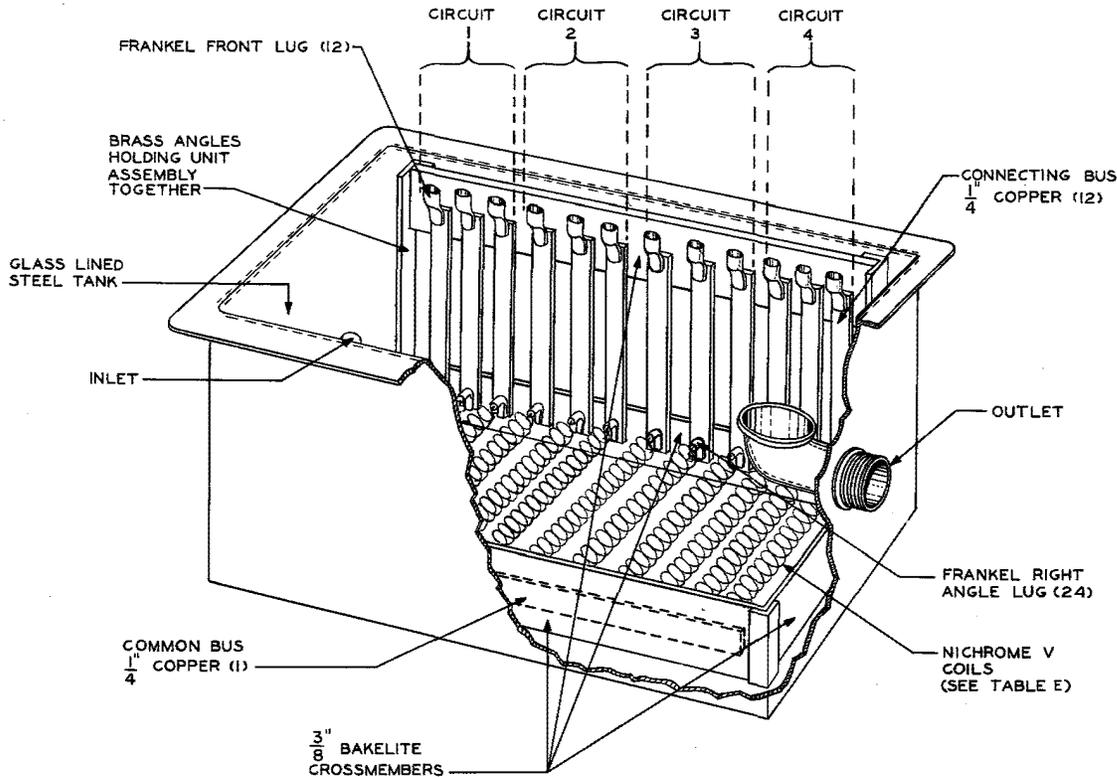

Fig. 20 – Typical Permanent Water Rheostat (tank type) With Section Removed to Show Nichrome V Wire Coils
7.02 The permanent water rheostat consists of a glass-lined tank, water inlet, water outlet, Nichrome V wire coils, see Fig. 20, and asso-
7.05 The other end of the coils, which run along at the bottom of the assembly, is attached to right-angle lugs which in turn are connected to a common bus extending the length of the assembly. It can be seen that this assembly presents four circuits, each containing three coils connected in Y. See Fig. 20.